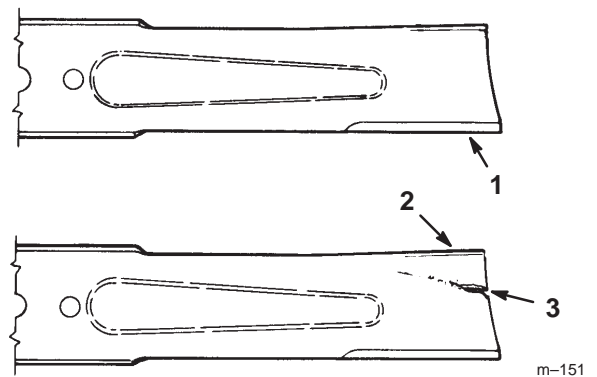

Figure 30
1. Inspect the cutting edges (Fig 30). If the edges are not sharp or have nicks, remove and sharpen the blades. Refer to Sharpening the Blades on page 30.
2. Inspect the blades, especially the curved area (Fig. 30). If you notice any damage, wear, or a slot forming in this area (item 3 in Fig. 30), immediately install a new blade.